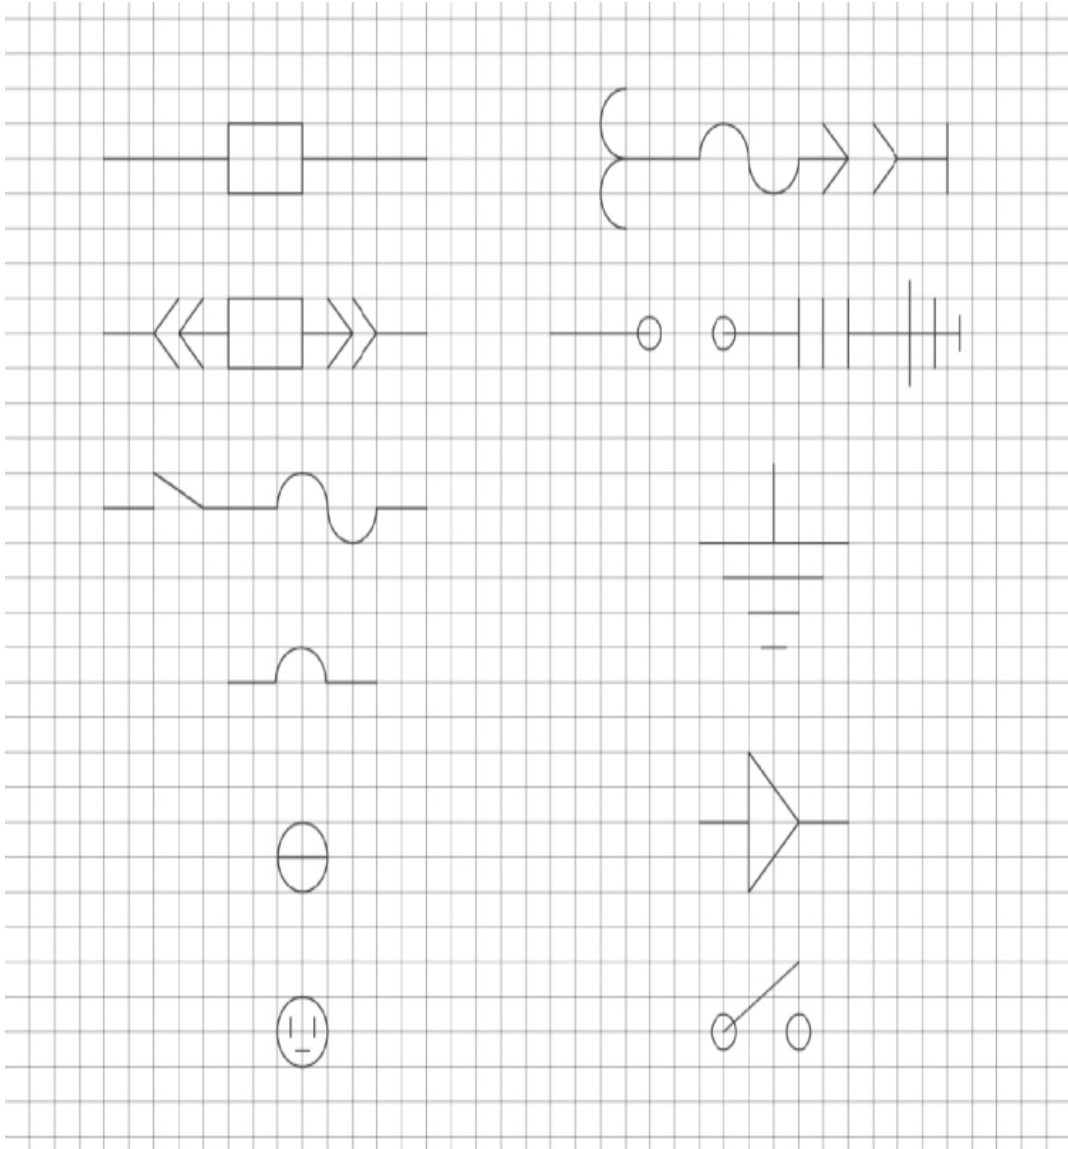

Figure 4-39
2. Draw the electrical symbols shown in Figure 4-39 at the sizes shown using the **LINE**, **CIRCLE**, and **ARC** commands. *Hint:* Each grid square is equal to 1/8".